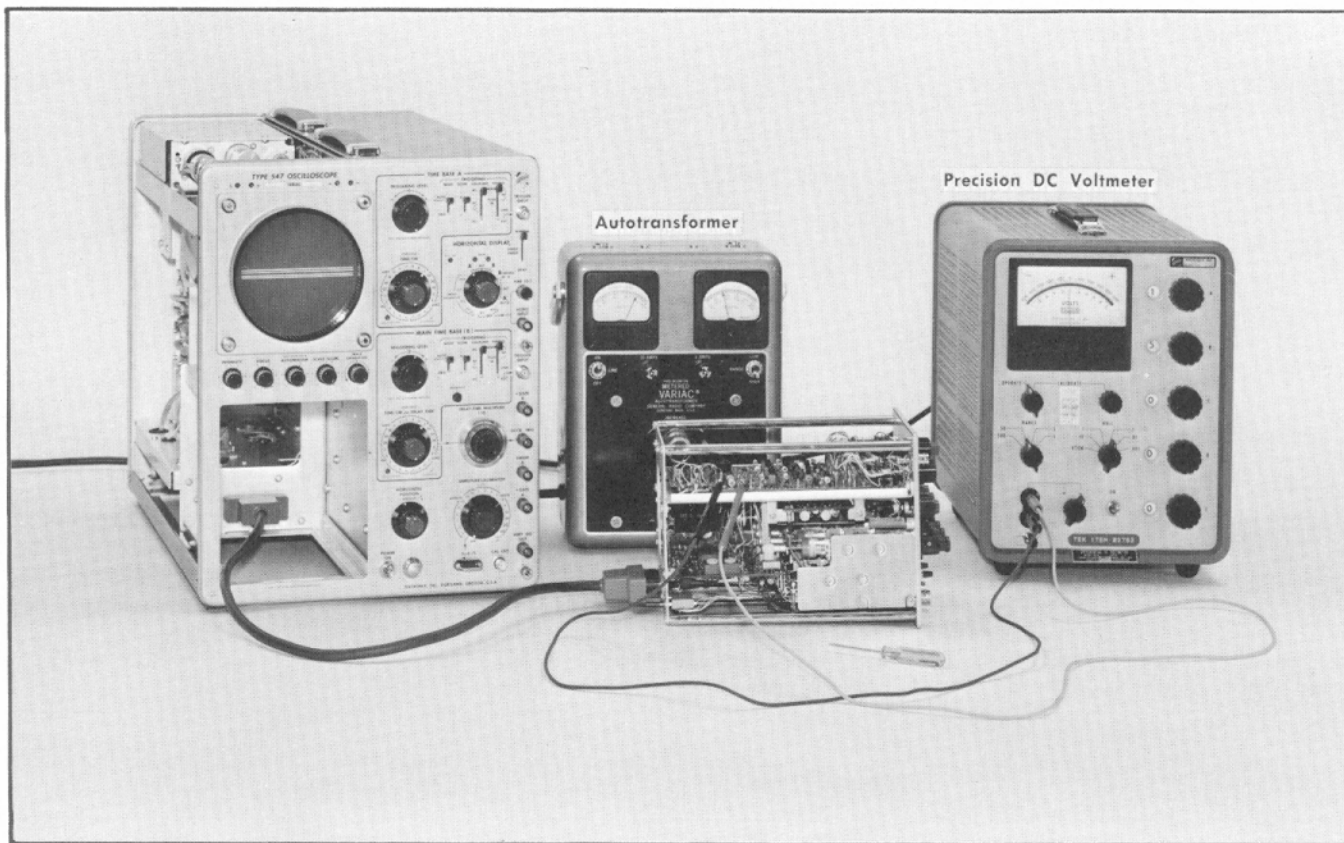

Fig. 7-5. Test equipment setup for steps 1 and 2.
a. Test equipment setup, with connections made at completion of step 1b in this procedure, is shown in Fig. 7-5.